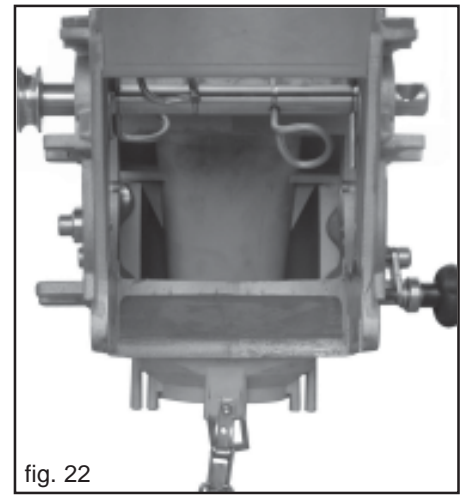

fig. 22
- 1) Doser with feeler pin and dosing rollers disassembled (Fig. 22).